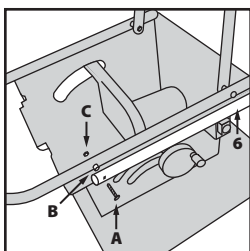

Fig. 10
- Attach component **6** to the machine, through component **1**, using fixings **A, B & C** from **BAG 1**. (Fig 10)